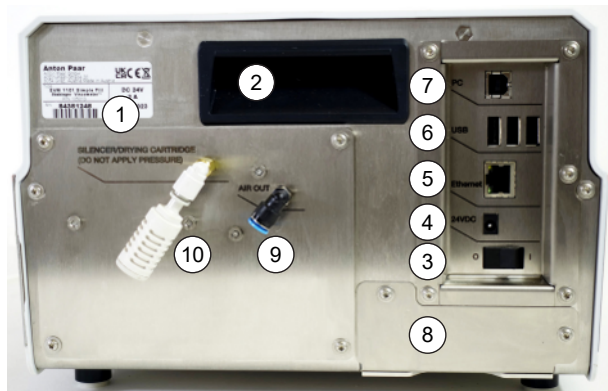

Fig. 6: SVM 1101 Simple Fill rear side
5. Plug the air hose into the connector “AIR OUT” on the rear (Fig. 6 [▶ 9]).